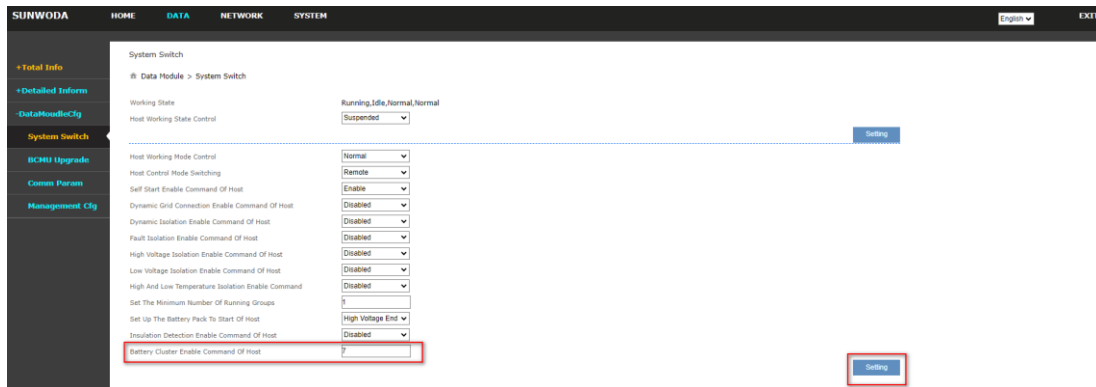

Figure 4.16
(12) After connecting the three clusters of DC-side parallel lines, turn on the computer in order, connect the LAN port of the control box of master cabinet (address 80) to the network port of the PC through the RJ45 network port connector (8P), open the Google Chrome browser and enter the URL 192.168.5.5, account number: user, password: password, and set up the cluster enable for the following page "7", click Setting (Fig. 4.16).